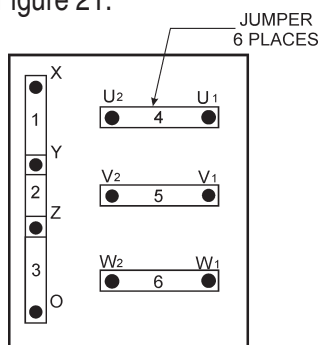

Figure 21. Voltage Change-Over Board
1. Jumper the voltage change-over board for 240V operation as shown in Figure 21.
1. Make sure the voltage change-over board is jumpered for 240V operation as shown in Figure 21 .
1. Make sure the voltage change-over board is jumpered for 240V operation as shown in Figure 21.